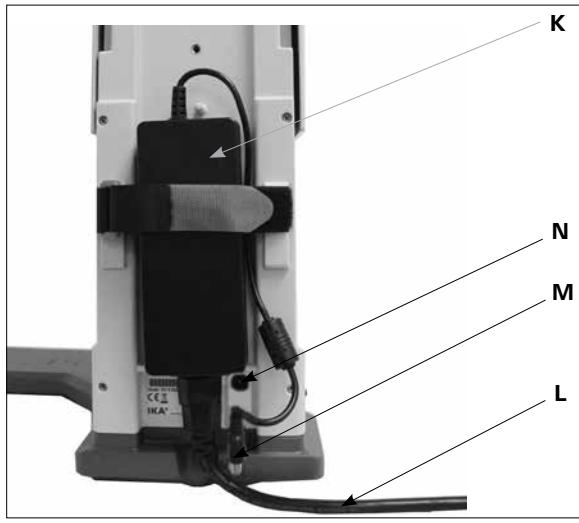

Fig. 9
### 3.) Fix the Desktop switching. (Fig. 9)
- Connect the Low-voltage connector (**M**) to the connection socket (**N**). (Fig. 9)